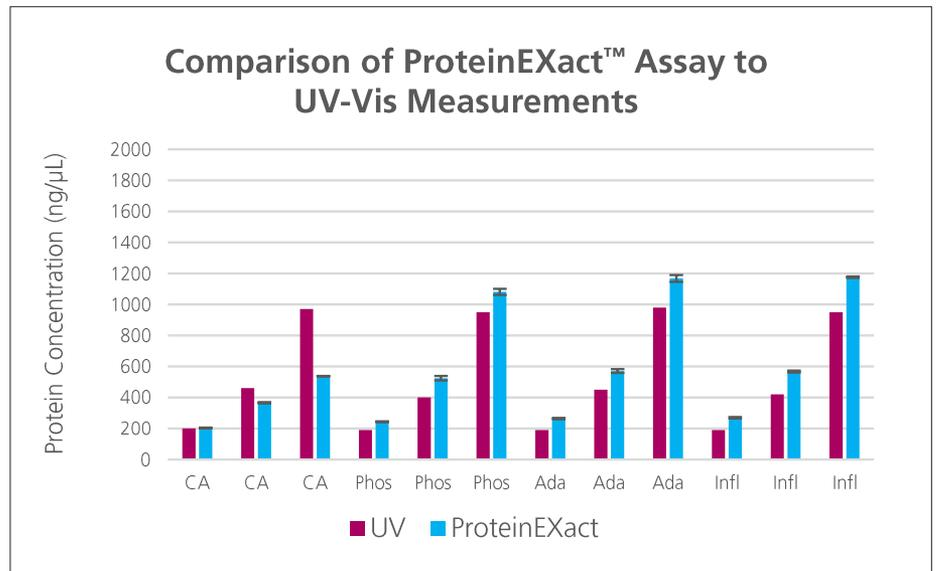

Figure 5. Comparison of ProteinEXact™ assay to UV-Vis measurements. \*Carbonic anhydrase at 950 ng/μL appears to be an outlier
The concordance was also analyzed by comparing concentration measurements made using the ProteinEXact™ assay with those measured using UV spectrophotometry using the same samples (Figure 5). A new sample plate containing carbonic anhydrase (CA), phosphorylase (Phos), Adalimumab (Ada), and Infliximab (Infl) at concentration 200, 500, and 1000 ng/μL. For each protein, the sample was measured in duplicate using the DropletQuant® spectrophotometer and the ProteinEXact™ assay. To increase concentration accuracy, an optimization of the protein sizing correction factor was applied according to our Technical Note.1 The difference from the theoretical UV absorption measurement ranged from 0.003 - 0.19 ng/mL\*, with average difference 0.14 mg/mL.